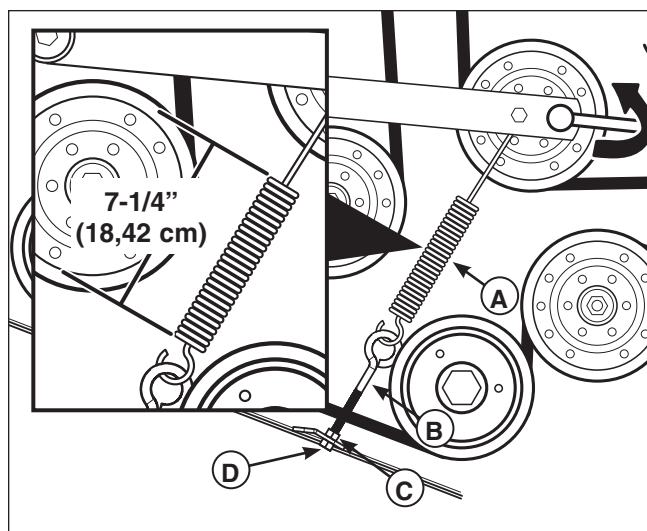

Figure 46. Mower Belt Idler Spring Length
3. Measure the coil length of the mower belt tensioner spring (A, Figure 46). The measurement should equal 7-1/4" (18,42 cm). If the measurement does not equal 7-1/4" (18,42 cm), adjust the anchor eyebolt (B).